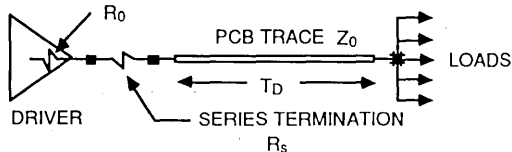

Figure 1.
Figure 1 shows a typical case of a series terminated driver connected to a load via a PCB trace.
3. There is no limit to the number of lumped loads (as shown in Figure 1) that can be used, provided that the total DC loading does not reduce the static noise margin because of a voltage drop across the series terminating resistor. This implies that series termination is well-suited to drive inputs of CMOS devices because of their very low input current requirements. The primary limitation to the number of CMOS loads is the additional delay due to the total input capacitance being driven.